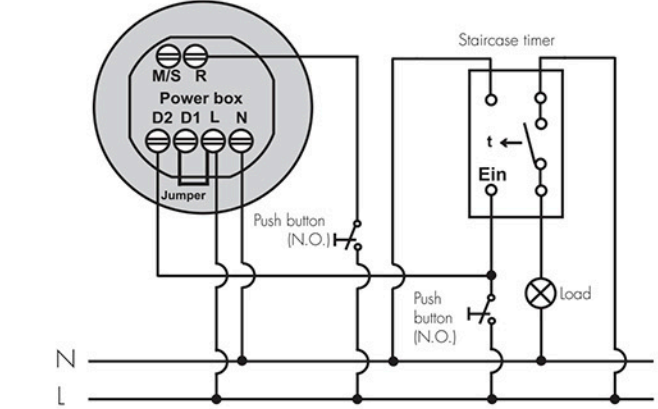

FIG. 7
- 3.2.1.2 One detector controls staircase timer (Set time knob to  $\sqrt{L}$ ) (See FIG.7).